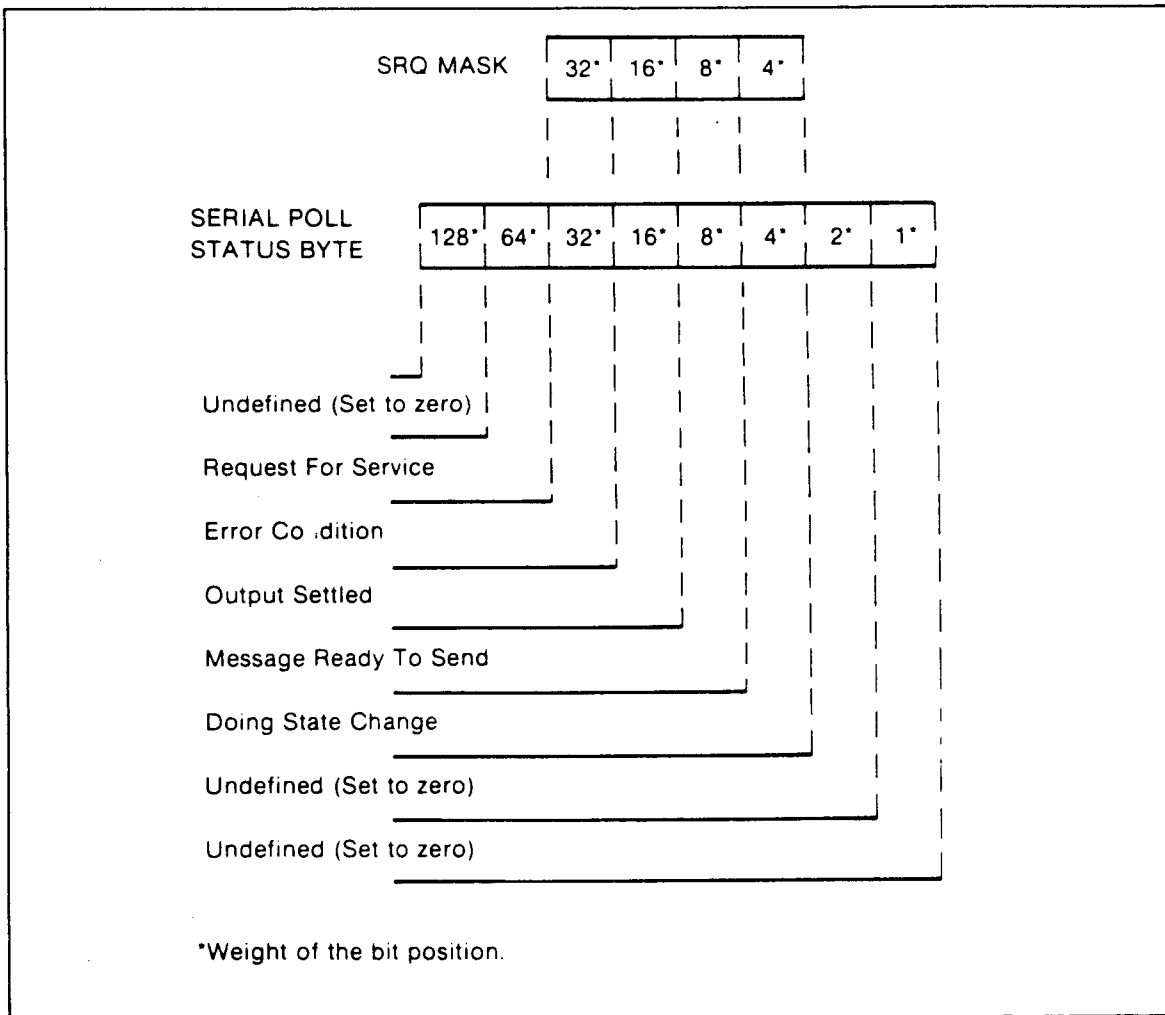

Figure 4-6. SRQ Mask and Serial Poll Status Byte
The following paragraphs provide information about each bit position of the Serial Poll Status Byte (Figure 4-6) that is used. The controller can look at the Serial Poll Status Byte by either serial polling or by sending the Get Serial Poll Byte (GSPB) message. The Calibrator returns the decimal equivalent of the Serial Poll Status Byte.
Figure 4-6 shows the Serial Poll Status Byte and the SRQ Mask for the Calibrator. Note that only one bit position is used to request for service; all other bit positions indicate specific events or are not used at all. When one of these events occurs, the corresponding bit position in the Serial Poll Status Byte is set true (1). If the same bit position is true (1) in the SRQ Mask, then the Request for Service bit position in the Serial Poll Status Byte is set true (1) which requests service by the controller. If the bit position in the SRQ Mask for that event is false (0), then the Request for Service bit